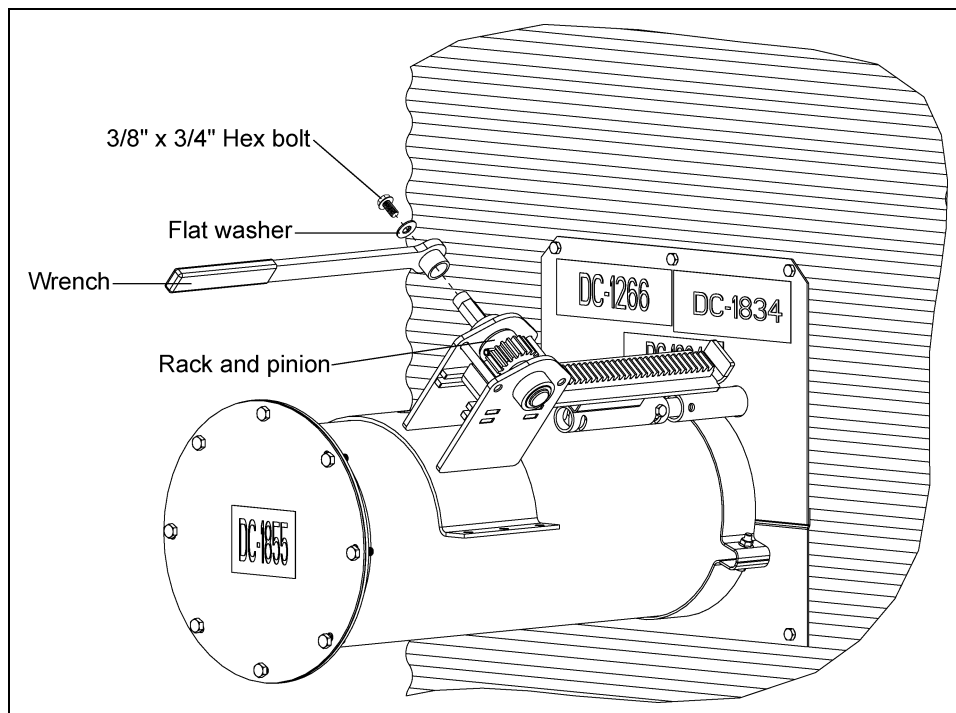

Figure 4Q 8" and 10" Systems
- Slide wrench over shaft on rack and pinion, making sure the collar faces the gears. Fasten down with 3/8" flat washer and 3/8" x 3/4" hex bolt. (See Figure 4Q.)